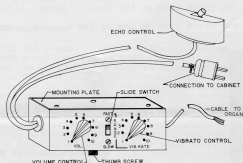

Figure 1. Control Assembly 128260
1. Separate the control case from its mounting plate by turning the black thumb screw (figure 1) on the bottom of the case.